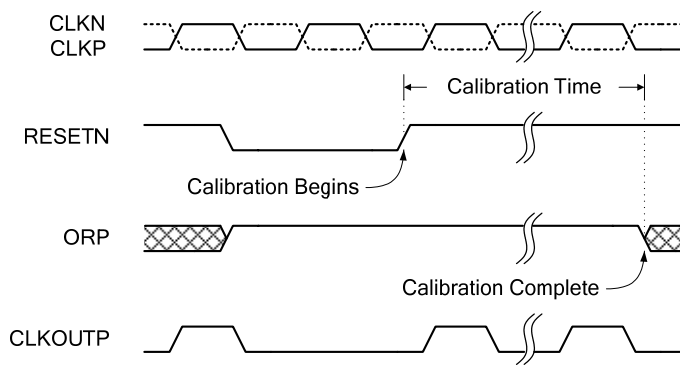

Figure 24. Calibration Timing
The calibration sequence is initiated on the rising edge of RESETN, as shown in Figure 24. The over-range output (OR) is set high once RESETN is pulled low, and remains in that state until calibration is complete. The OR output returns to normal operation at that time, so it is important that the analog input be within the converter's full-scale range to observe the transition. If the input is in an over-range condition the OR pin will stay high, and it will not be possible to detect the end of the calibration cycle.